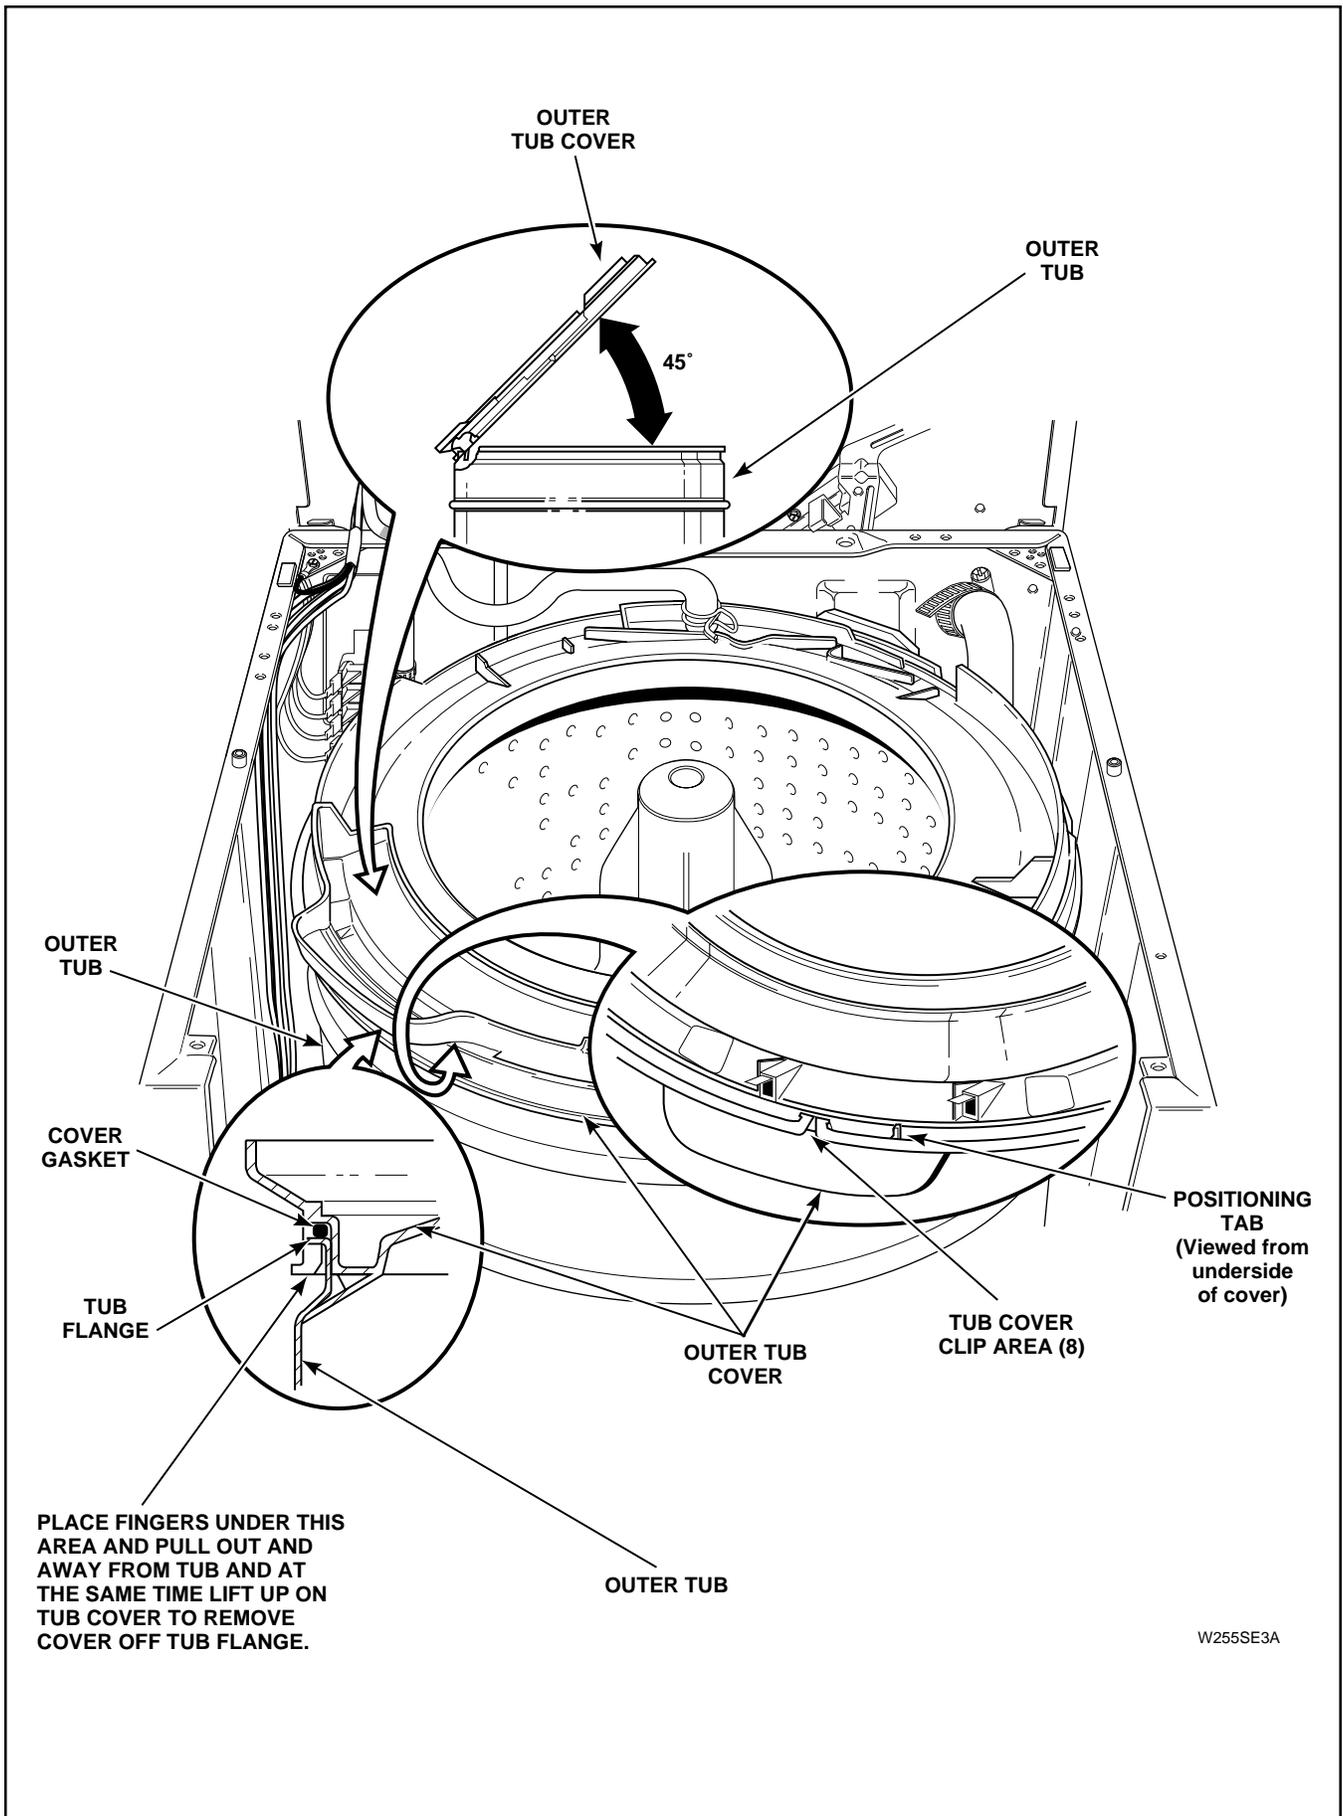

Figure 36
- h. With tub cover tilted at approximately a 45 degree angle, insert the positioning pin into notch on outer tub flange, *Figure 36*.